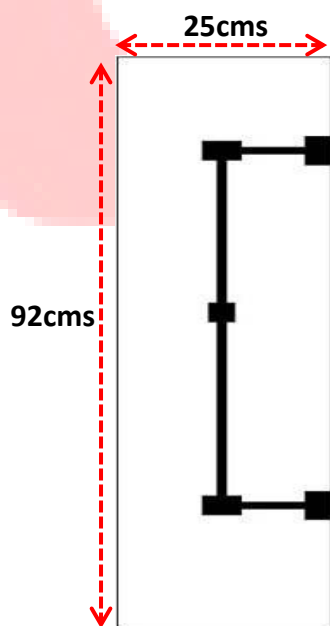

Figure 6: Base Station Arena
- iii. **Base Station Arena:** this part of the arena constitutes the Base Station of dimensions 25cm x 92cm as shown in Figure 6.